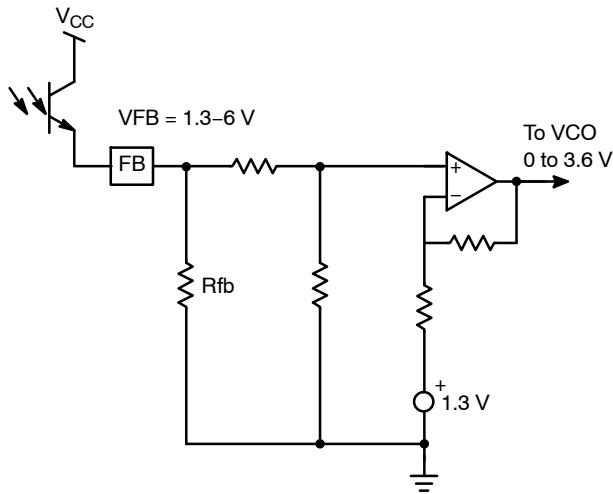

Figure 34. The OPAMP arrangement limits the VCO internal modulation signal between 0 and 5.0 V.
The designer needs to program the maximum switching frequency and the minimum switching frequency. In LLC configurations, for circuits working above the resonant frequency, a high precision is required on the minimum frequency, hence the $\pm 3\%$ specification. This minimum switching frequency is actually reached when no feedback closes the loop. It can happen during the startup sequence, a strong output transient loading or in a short-circuit condition. By installing a resistor from pin 1 to AGND, the minimum frequency is set. Using the same philosophy, wiring a resistor from pin 2 to AGND will set the maximum frequency excursion. To improve the circuit protection features, we have purposely created a dead zone, where the feedback loop has no action. This is typically below 1.3 V. Figure 34 details the arrangement where the *internal* voltage (that drives the VCO) varies between 0 and 3.6 V. However, to create this swing, the feedback pin (to which the optocoupler emitter connects), will need to swing typically between 1.3 V and 6.0 V.
As shown in Figure 34, the *internal* dynamics of the VCO control voltage will be constrained between 0 V and 3.6 V, whereas the feedback loop will drive pin 5 (FB) between 1.3 V and 6.0 V. If we take the external excursion numbers, 1.3 V = 50 kHz, 6.0 V = 1.0 MHz, then the VCO slope will then be $\frac{1 \text{ Meg} - 50 \text{ k}}{4.7} = 202 \text{ kHz/V}$.